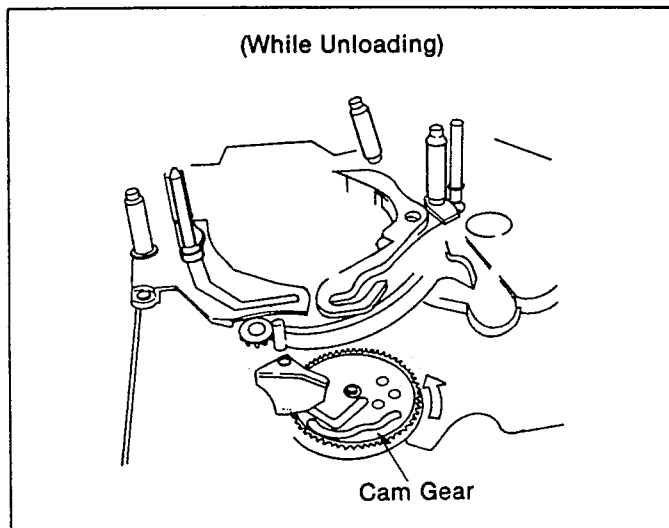

Fig. M15
- (2). When installing of T-Rail finished, turn the Cam Gear to counter-clockwise that set the Roller Posts into stop position as shown in Fig. M15 and M16.